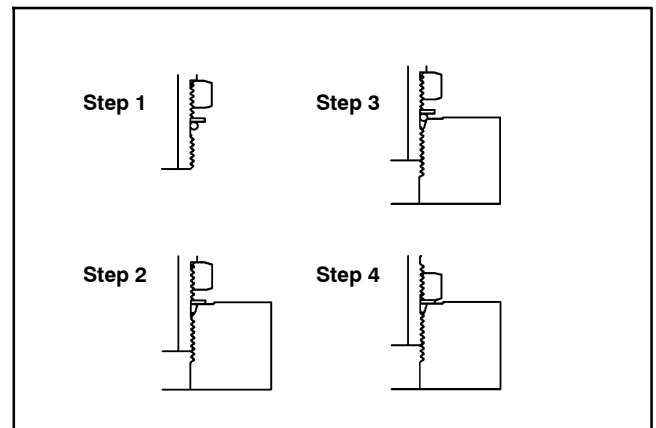

Figure 43
4. Turn back the lock nut as far as possible. Make sure the back up washer is not loose and is pushed up as far as possible (Step 1 in Figure 43).
5. Install the fitting into the port and tighten finger tight until the washer contacts the face of the port (Step 2 in Figure 43). Make sure that the fitting does not bottom in the port during installation.
6. To put the fitting in the desired position, unscrew it by the required amount to align fitting with incoming hose or tube, but no more than one full turn (Step 3 in Figure 43).
8. If a torque wrench is not available, or if space at the port prevents use of a torque wrench, an alternate method of assembly is the Flats From Finger Tight (F.F.F.T.) method. Hold the fitting in the desired position with a wrench and, if port material is steel, tighten the lock nut with a second wrench to the listed F.F.F.T. (Step 4 in Figure 43). If port material is aluminum, tighten fitting to 60% of listed F.F.F.T.